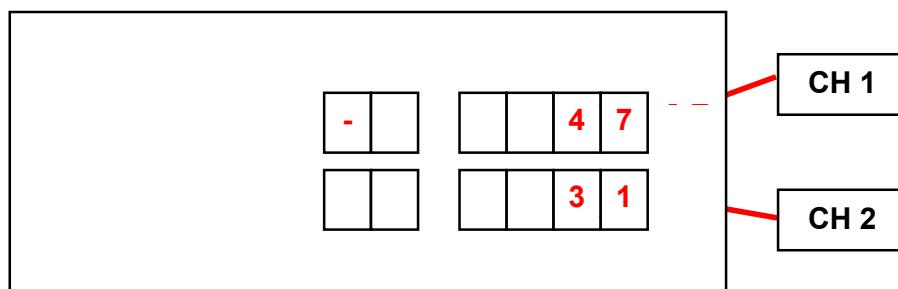

Figure 4.2
- Press [CON] to view the noise conditions. Display will be as per Figure 4.2.